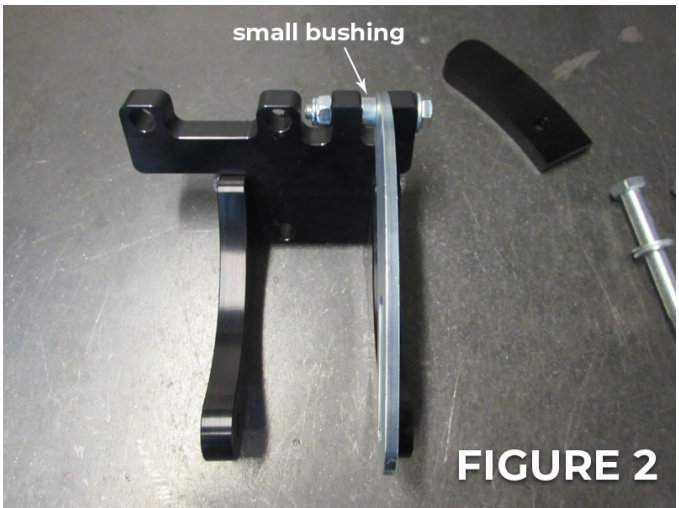

FIGURE 2
2. Insert the 5/16-18 bolt that is 2 inches in length. Use the flat washer on the outside of the bracket. The plated tensioner and small bushing will be in the middle of the bracket. **Please note orientation, as this is important.** Tighten bolt, it is normal for a small amount of movement in the bushing and tensioner. (Fig 2)